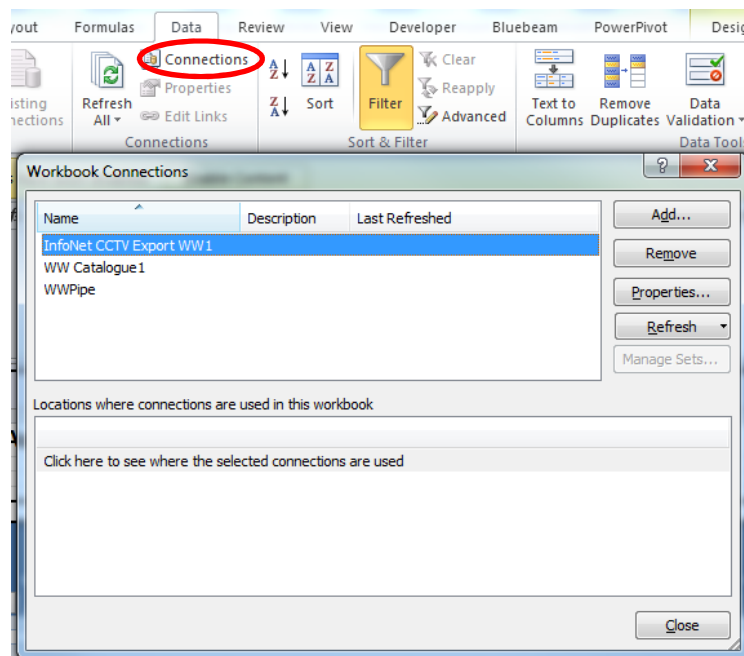

Figure 17 - Excel Workbook Connections
- Data tab > Connections (shown in Figure 17)